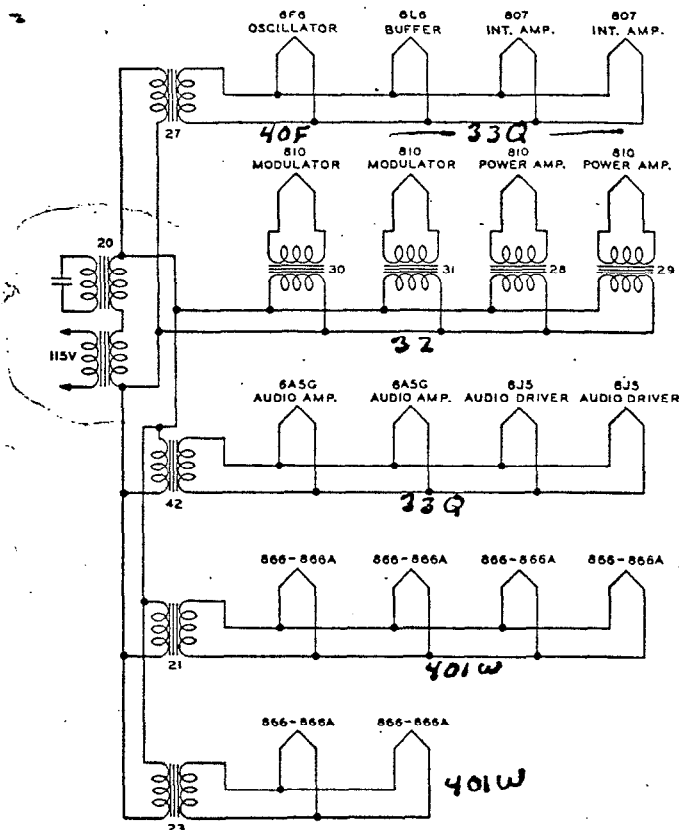

Figure 2-6. Filament Circuits
b. FILAMENT CIRCUITS. (Refer to figure 2-6.)